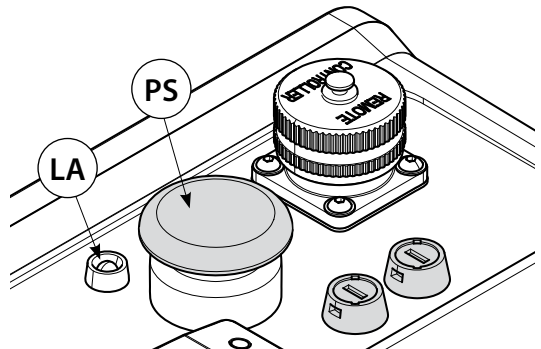

FIG. 3
- *If required, by pressing the mechanical pressure release button (PS) (see Fig.3) on the pump, the oil will return to the reservoir independent of the status of the external power supply.*
The pump is equipped with a self-diagnostic system; the condition of yellow LED (LA) (Fig 3) indicates malfunction **with subsequent interruption to pumping**.